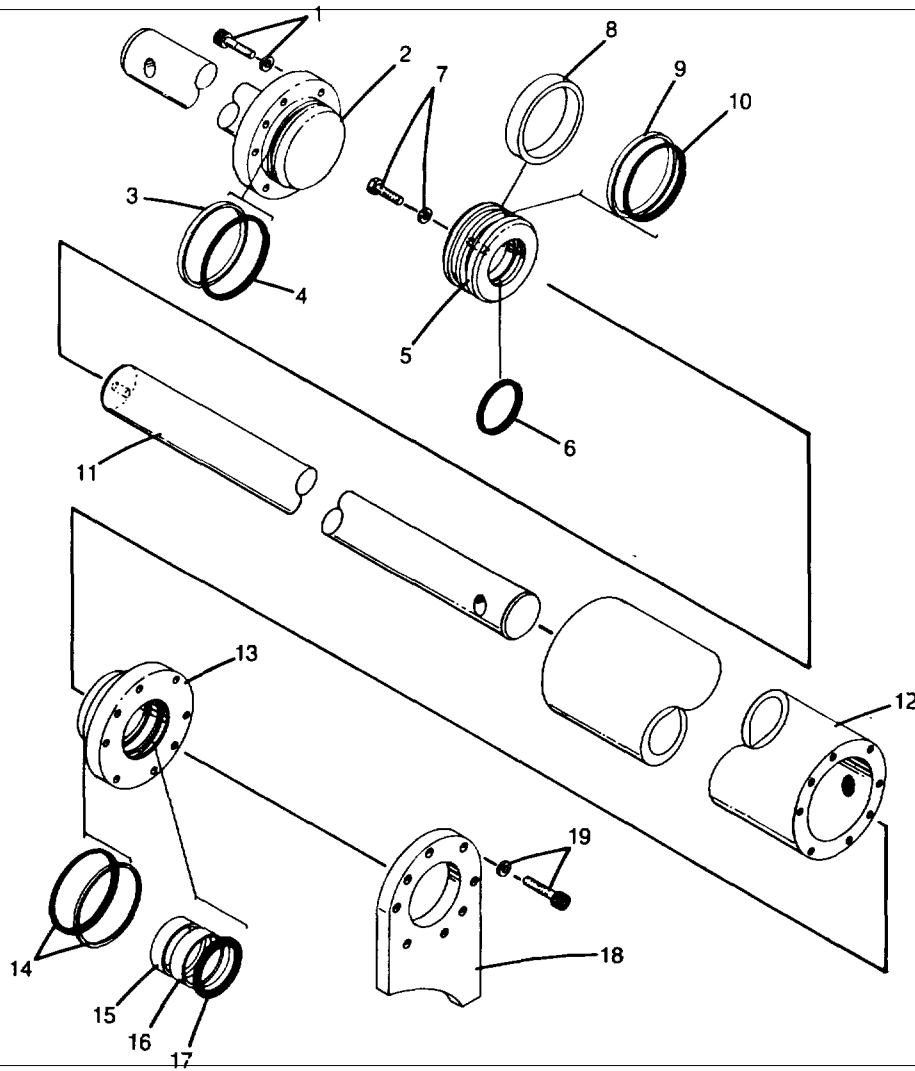

Fig. 2
1.3 Cylinder Reassembly (Refer to Fig. 2)
- (a) Install 'O' ring (item 4 in Fig. 2) and back-up ring (3) in groove in outside diameter of end cap. Install end cap on cylinder, but be careful not to damage 'O' ring or back-up ring.
- (b) Install washer on capscrews (1). Install capscrews and tighten evenly to 30 ft/lb.
- (c) Install 'O' ring (6) inside piston. Install piston on rod (11). Install capscrews (7) and tighten evenly to 30 ft/lb. (40 N-m) torque.
- (d) Install 'O' ring (10) in groove on piston. Install piston seal (9) in groove on top of 'O' ring. Install wear ring (8) in the other groove.
- (f) Install the 'O' ring and back-up ring (14) in the groove on the outside of the gland (13). Back-up ring is located behind the
Locate the identification tag (Figure 2) and record the serial number and chord material type (See Figure 3). If the material type is not marked, the material is type "A" or "B", which have the same welding procedure. If the identification plate cannot be located or is unreadable, the section is to be considered as NON-REPAIRABLE